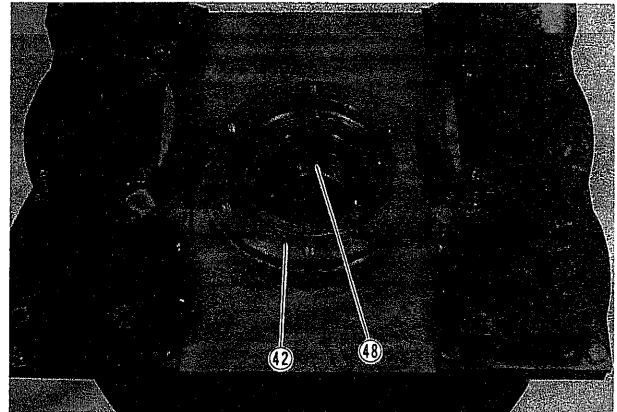

Fig. 84
- (ii) Separate disc (42) from axle shaft (48). Take off oil seal (41), seal ring (40) and outer races of bearings (19) from disc (42). (Fig. 73, Fig. 84)